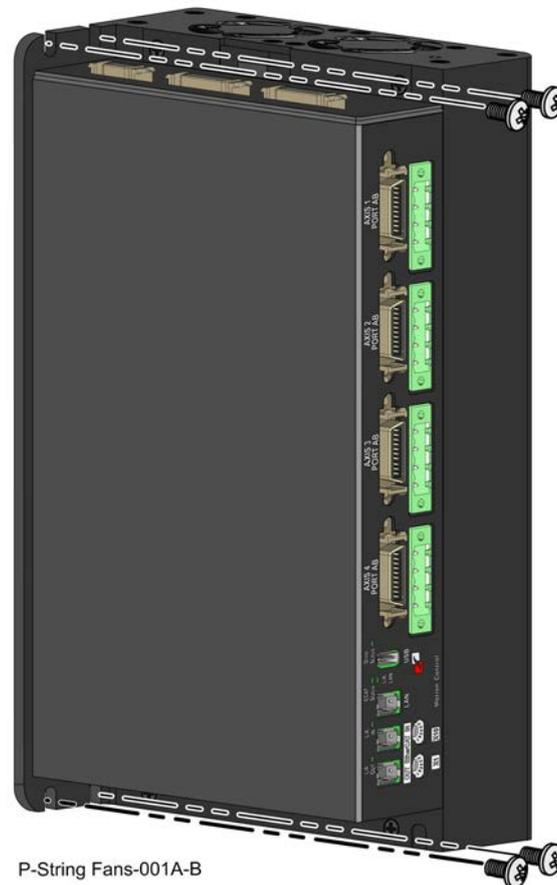

Figure 2: Narrow backside mounting of Fins+Fan Platinum String Quad (Quartet)
- For the narrow backside mounting use four M4 screws, as shown in Figure 2: